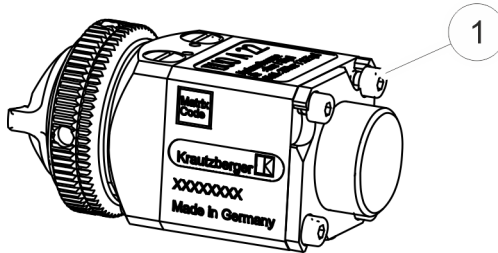

Fig. 14: Loosening the cylinder screws
3. ➔ Slightly loosen the four cylinder screws ( Fig. 14/1) with a wrench (AF 10) by turning them two times each.